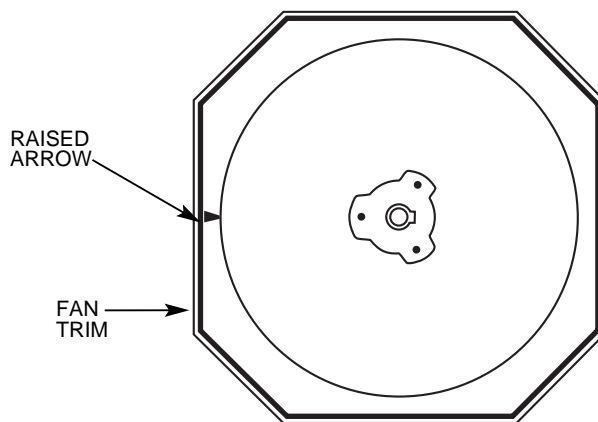

Figure 8
A. Looking up at the bottom of the fan trim. Locate the raised arrow on the bottom of the trim. See Figure 8. Before proceeding with the next step make sure you've located the arrow.